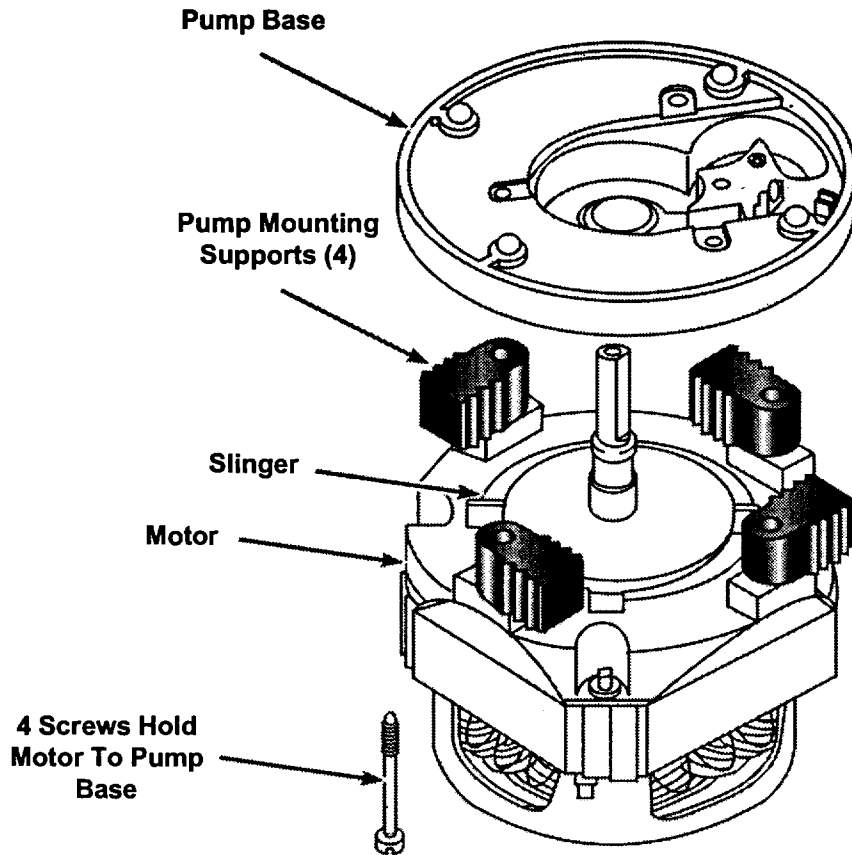

Fig. 10
11. Remove the four (4) Torx screws securing the pump base to the motor assembly. The pump mounting supports pivot on these screws. (Fig. 10)